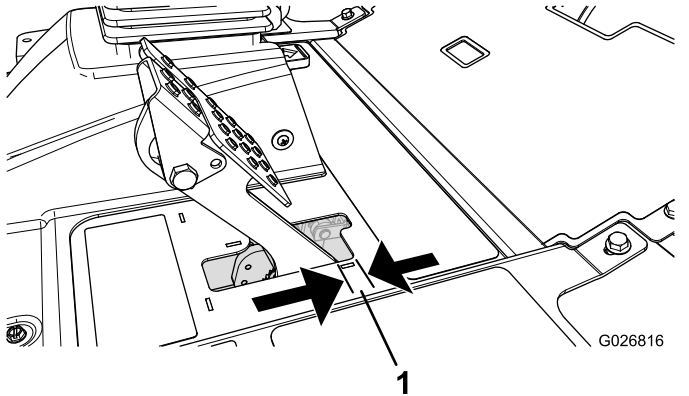

Figure 97
Adjust the brakes when there is more than 2.5 cm (1 inch) of free travel of the brake pedal, or when more holding force is required (Figure 97). Free travel is the distance that the brake pedal moves before you feel braking resistance.
2. Tighten the rear nut to move the cable backward until brake pedals have 0.63 to 1.27 cm (1/4 to 1/2 inch) of free travel, before the wheel locks up (Figure 97).